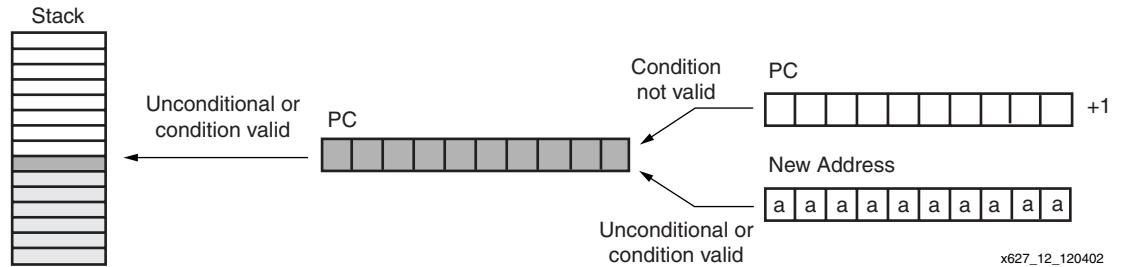

Figure 13: CALL Instruction
The CALL instruction is similar in operation to the JUMP instruction. It modifies the normal program execution sequence by specifying a new address. The CALL instruction can also be conditional. In addition to supplying a new address, the CALL instruction also causes the current program counter (PC) value to be pushed onto the program counter stack. The CALL instruction has no effect on the status of the flags (Figure 13).]